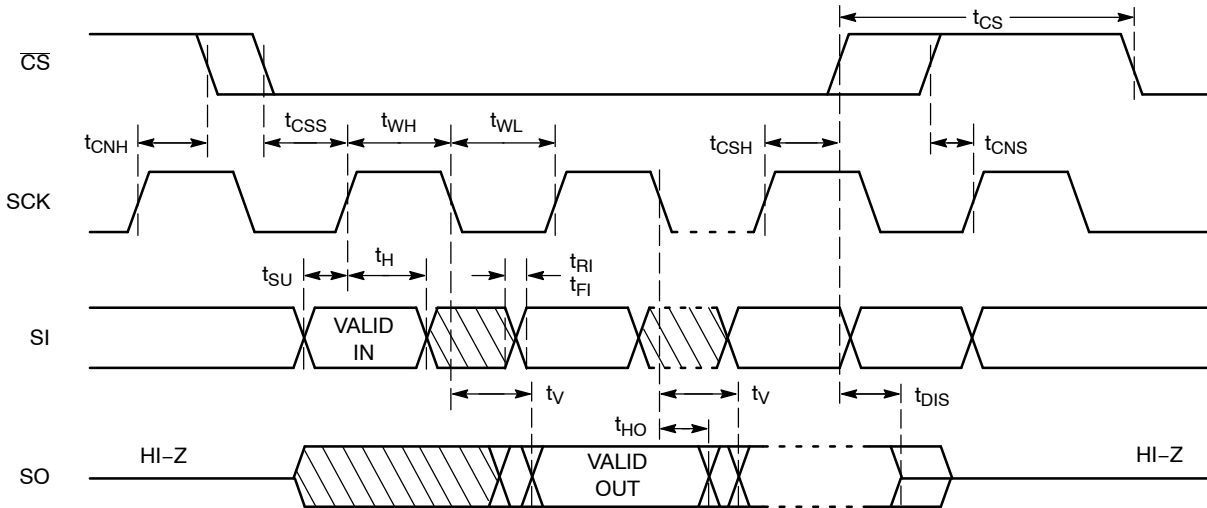

Figure 2. Synchronous Data Timing
7. **All Chip Select (CS) timing parameters are defined relative to the positive clock edge (Figure 2). t_{CSH} timing specification is valid for die revision C and higher. The die revision C is identified by letter “C” or a dedicated marking code on top of the package. For previous product revision (Rev. B) the t_{CSH} is defined relative to the negative clock edge.**
After a high to low transition on the $\overline{CS}$ input pin, the CAT25080/160 will accept any one of the six instruction op-codes listed in Table 9 and will ignore all other possible 8-bit combinations. The communication protocol follows the timing from Figure 2.